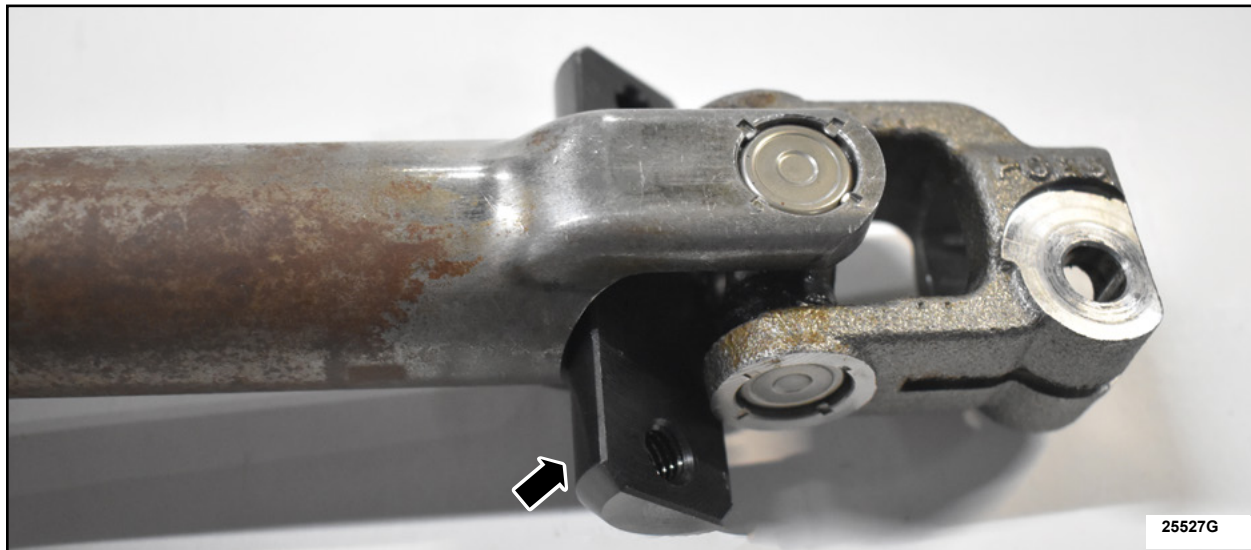

FIGURE 7
6. Insert the anchor plate, matching up the bevel, into the steering column upper shaft u-joint. See Figure 7.